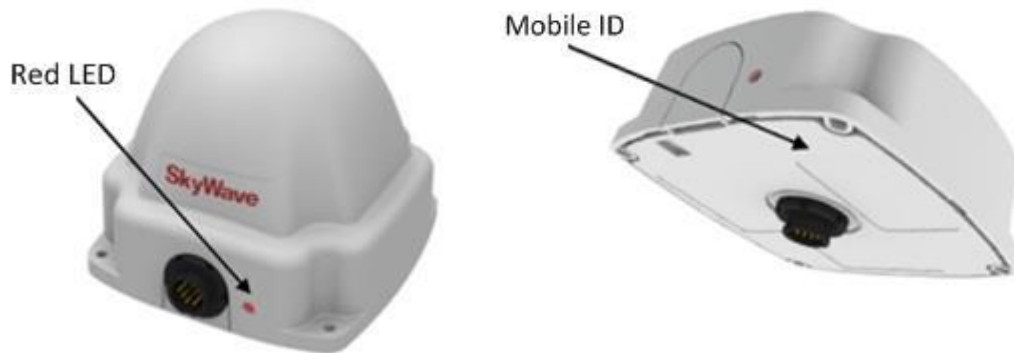

Figure 4: Transceiver LED and Mobile ID location
13. After the transceiver is powered up, its red LED will flash while the software starts up (see Figure 4).
The transceiver operates automatically and does not require any user intervention in normal operation. When the transceiver is powered up, the red LED will flash for a short period while the software starts up (see Figure 4).
If you have any problems with the MAT-IDP690, please contact your Fleet Operations Manager (or Pole Star distributor/person responsible for the operation of the system) giving details of the vessel name, ship owner/company, transceiver Mobile ID (see Figure 4) and the nature of the problem.